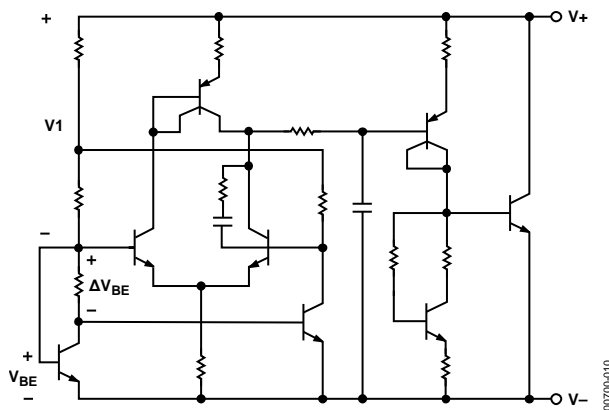

Figure 10. Schematic Diagram
The AD1580 uses the band gap concept to produce a stable, low temperature coefficient voltage reference suitable for high accuracy data acquisition components and systems. The device makes use of the underlying physical nature of a silicon transistor base emitter voltage in the forward biased operating region. All such transistors have an approximately  $-2 \text{ mV}/^\circ\text{C}$  temperature coefficient (TC), which is unsuitable for use directly as a low TC reference; however, extrapolation of the temperature characteristic of any one of these devices to absolute zero (with collector current proportional to absolute temperature) reveals that its  $V_{BE}$  goes to approximately the silicon band gap voltage. Thus, if a voltage could be developed with an opposing temperature coefficient to sum with  $V_{BE}$ , a zero TC reference would result. The AD1580 circuit in Figure 10 provides such a compensating voltage,  $V_1$ , by driving two transistors at different current densities and amplifying the resultant  $V_{BE}$  difference ( $\Delta V_{BE}$ , which has a positive TC). The sum of  $V_{BE}$  and  $V_1$  provides a stable voltage reference.